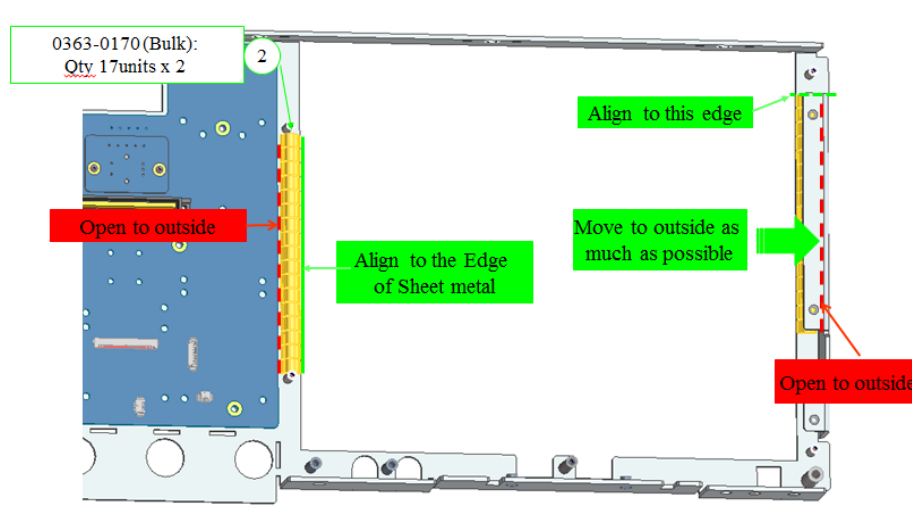
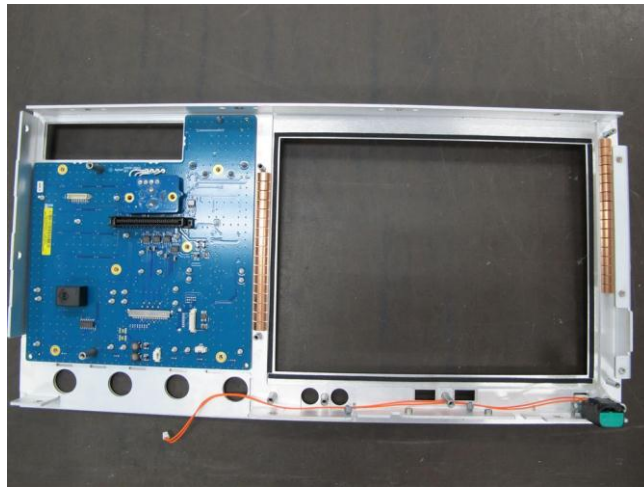

Figure 1-2
Figure 1-3
2. Install the gaskets as shown in Figure 1-2. Figure1-3 illustrates the Front panel with the keyboard installed.